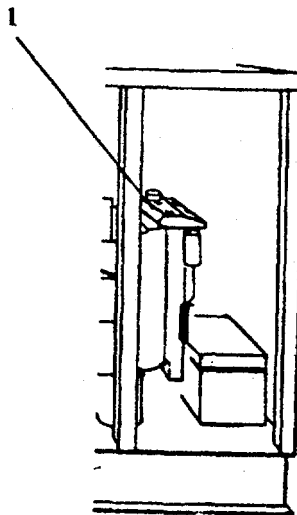

Figure 2-6. Expansion Tank.
2-6. EXPANSION TANK (Figure 2-6). The expansion tank (1) contains a water/glycol solution used to cool the engine.